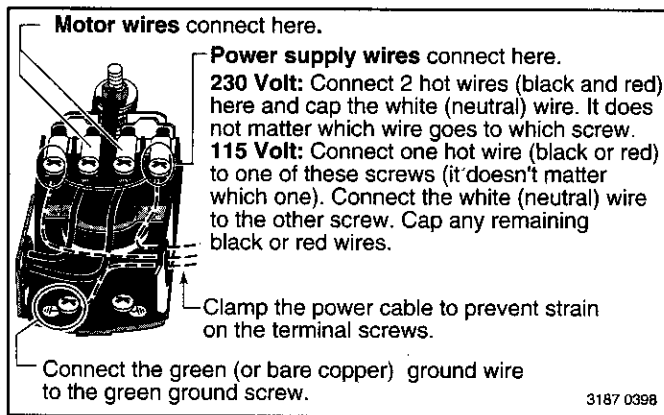

Figure 6 – Pressure switch wiring
1. Connect the ground wire first as shown in Figure 6. The ground wire must be a solid copper wire at least as large as the power supply wires.
4. Connect the power supply wires to the pressure switch as shown in Figure 6.